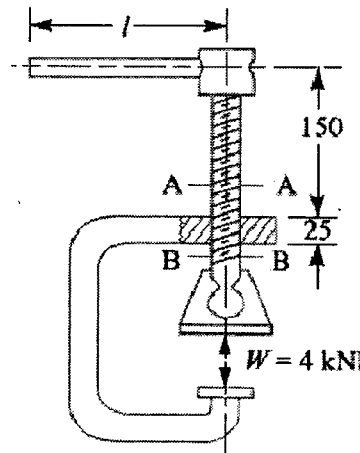

FIG 1
- (b) A wall bracket with a rectangular cross section is shown in Fig 1. The depth of the cross section is twice of the width. The Force P acting on the bracket at 60° to the vertical is 5 kN. The material of the bracket is grey cast iron FG 200 ($\sigma_{ultimate} = 200$ MPa) and the factor of safety is 3.5. Determine the dimensions of the cross-section of the bracket. Assume maximum principle stress theory of failure. 10
- 5 A C-clamp, as shown in Fig. 1, has trapezoidal threads of 12 mm outside diameter and 2 mm pitch. The coefficient of friction of screw threads is 0.12 and for the collar is 0.25. The mean radius of the collar is 6 mm. If the force exerted by the operator at the end of the handle is 80 N, find